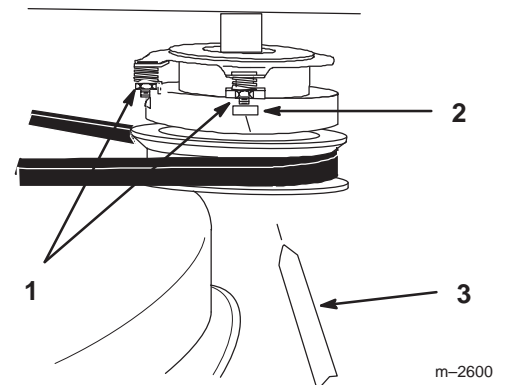

Figure 60
1. To adjust clutch, tighten or loosen lock nuts on flange studs (Fig. 60).
2. Check adjustment by inserting feeler gauge thru slots next to studs (Fig. 60).